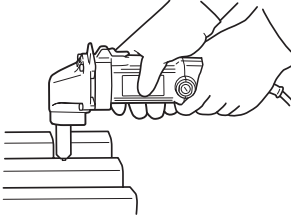
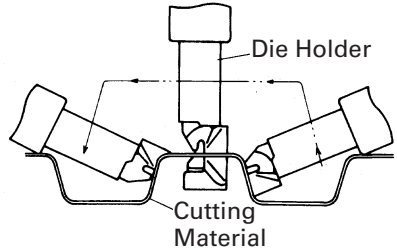

Fig. 5
Fig. 6
- (2) Grip the machine firmly with both hands as shown in Fig. 5, align with the shape of the trapezoidal plate, push the machine forward until the die holder is at right angles as shown in Fig. 6 and make the cut.